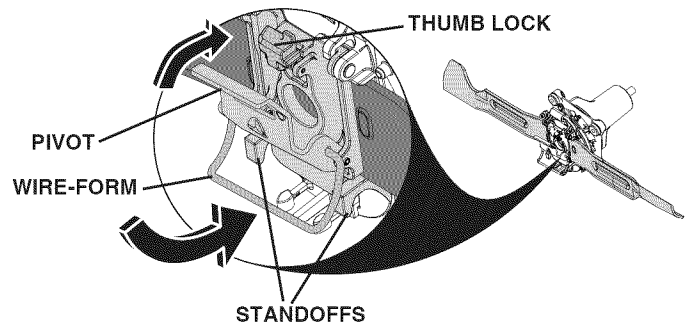

Fig. 19
- Push pivot closed until secured by the thumb lock. (See Fig. 19.)